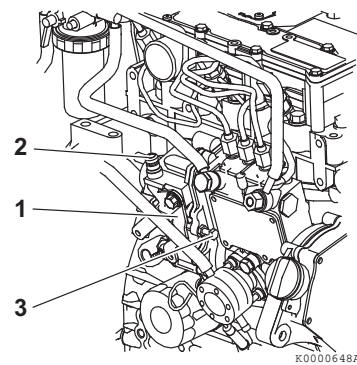

Figure 14
The governor lever (**Figure 14, (1)**) controls the engine speed. The lever is linked to the engine speed control device in the driven machine.
The high idle speed limit screw (**Figure 14, (2)**) restricts the maximum engine speed when the engine is operated without a load.
The low idle speed limit screw (**Figure 14, (3)**) sets engine speed while it is idling.